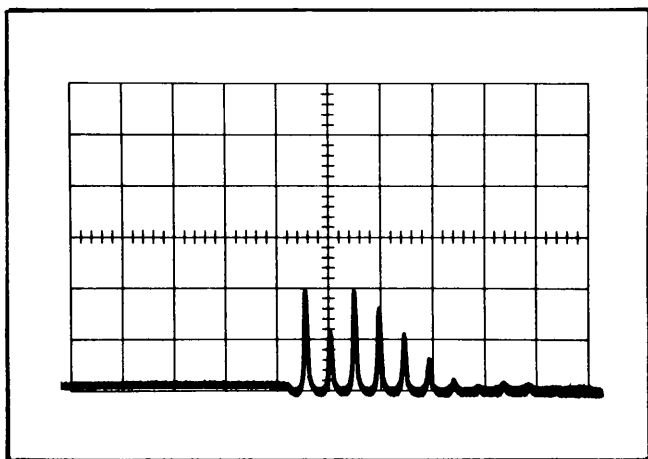

Fig. 6-10. Adjust L164 for one 5 kHz marker to the left of the 0 Hz spurious signal.
t. Adjust L164, very slowly, until only one (1) 5 kHz marker appears to the left of the 0 Hz spurious signal. See Fig. 6-10. The 0 Hz spurious signal may be identified by rotating the VARIABLE/CM control counterclockwise. The 0 Hz signal will not change amplitude. Cement the core of L164 with a good grade rubber cement.